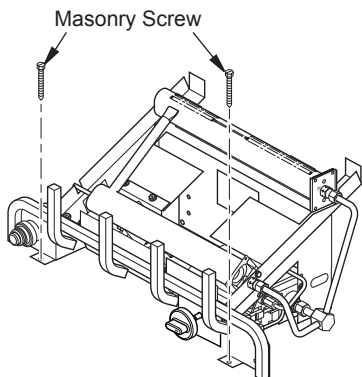

Figure 12 - Attaching Base to Fireplace Floor
3. Mark screw locations through holes in front panel of base (see Figure 12). If installing in a brick bottom fireplace, mark screw locations in mortar joint of bricks.
6. Attach base, through holes in front panel of base, to fireplace floor using masonry screws provided in hardware package (see Figure 12).